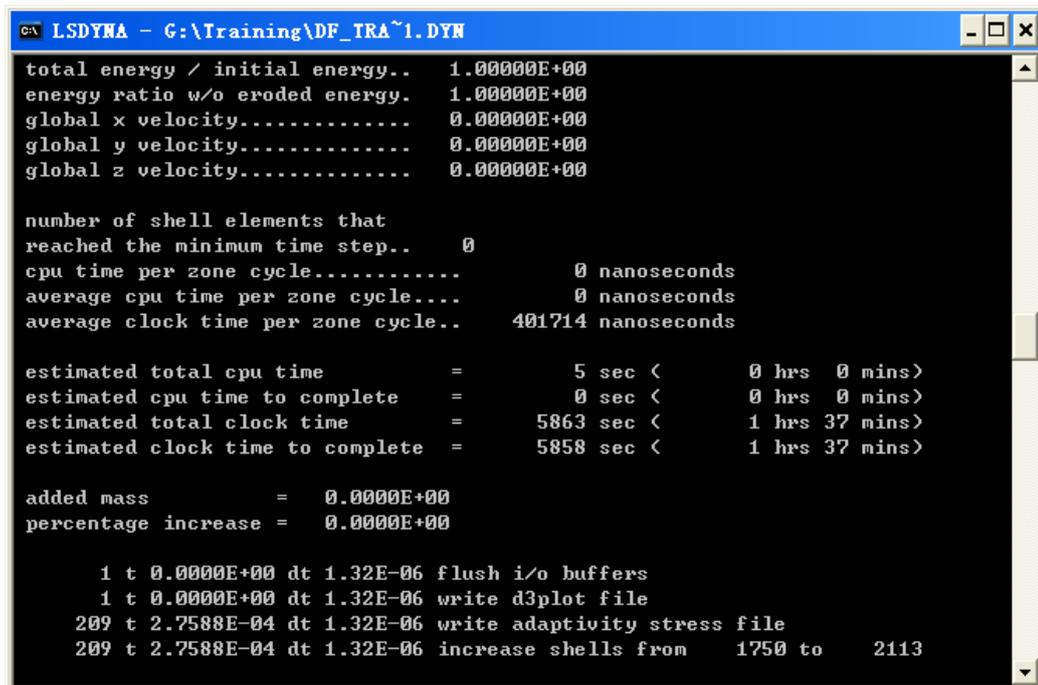

Figure 7.54 LS-DYNA solver window
4. Click **Submit Jobs** button to activate the LS-DYNA solver window illustrated in Figure 7.54. The simulation is in progress.